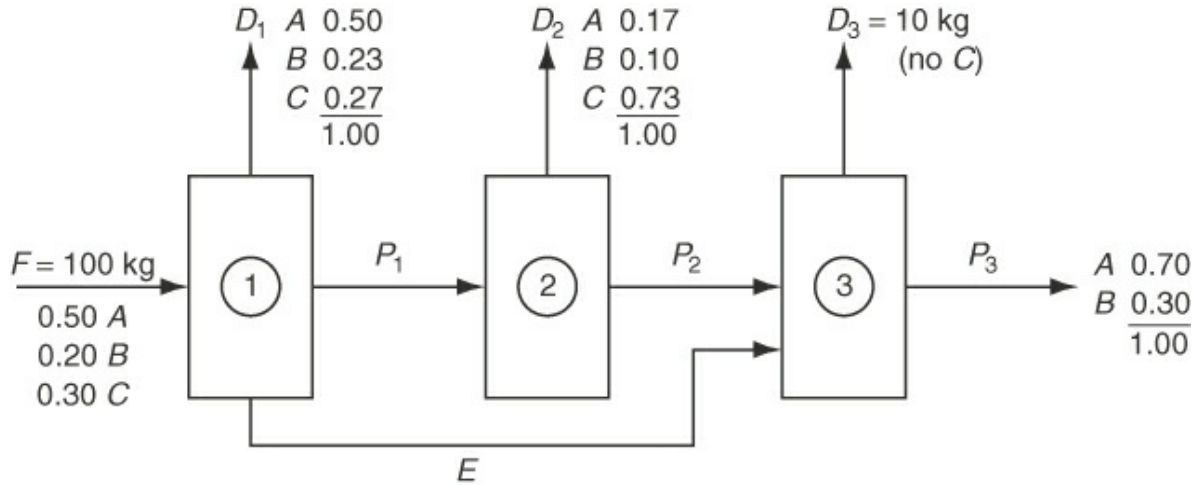

Figure P5.2.8
***5.2.8 Figure P5.2.8 shows a three-stage separation process. The ratio of P₃/D₃ is 3, the ratio of P₂/D₂ is 1,